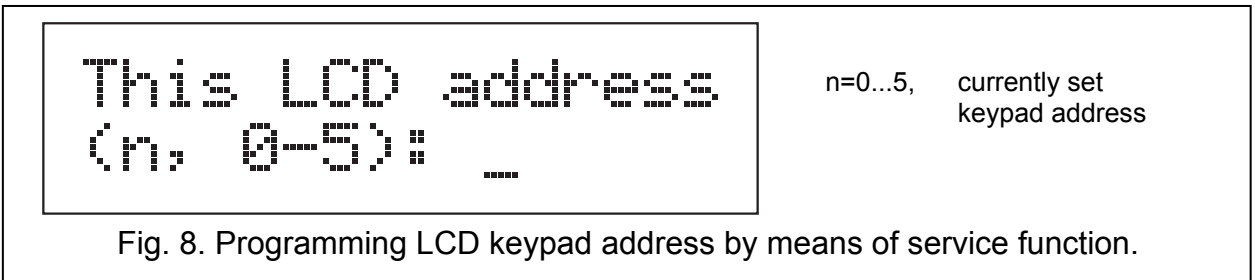

Fig. 8. Programming LCD keypad address by means of service function.
- for LCD keypads, the text shown in Fig. 8 will be displayed;